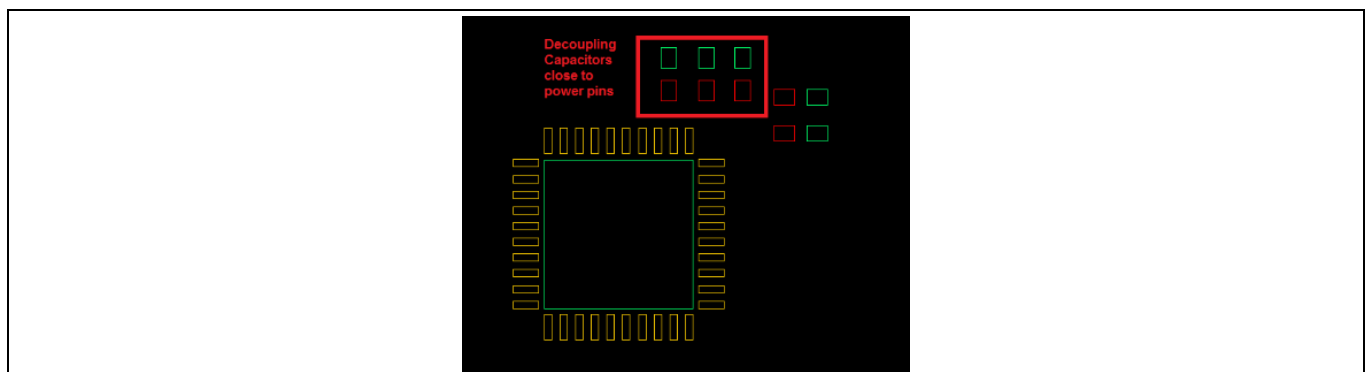

Figure 7-3 Placement of Bulk and Decoupling Capacitors
- Place decoupling capacitors close to the power pins of the respective CCG controller for high- and low-frequency noise filtering, as shown in **Figure 7-3**.